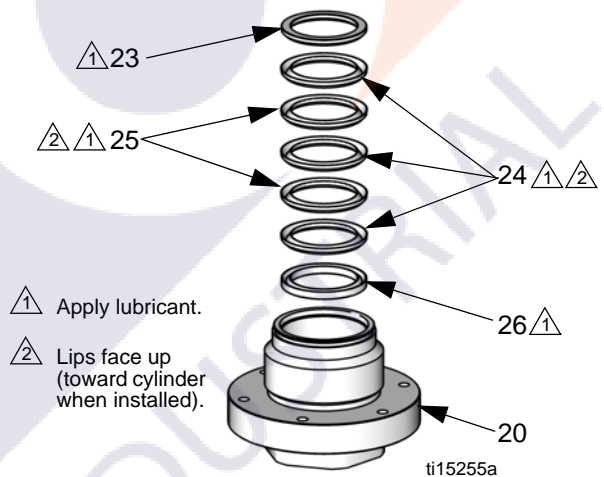
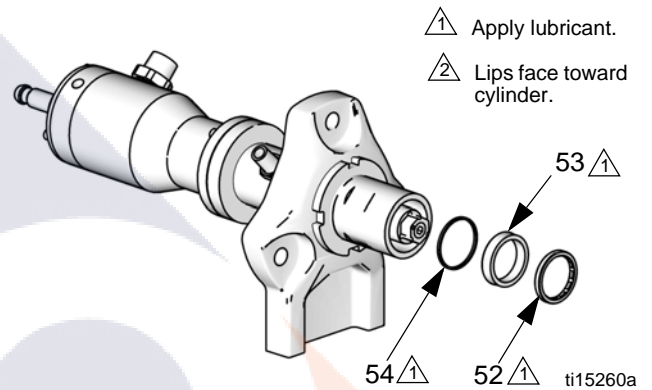

FIG. 10. Throat v-packings
FIG. 13. U-Cup piston seal
7. **U-Cup Models:** Remove the bearing (52), u-cup (53), and washer (54). See FIG. 13, page 15.
9. Remove the connecting rod (14) and bellows (7).
10. Use a 5 mm allen wrench to remove the three screws (17) and washers (18), then remove the bellows chamber (1). Remove and discard the bellows chamber o-ring (12).
11. Use a 54 mm (2 1/8 in.) socket wrench to remove the packing nut (20).
12. **V-Packing Models:** Remove the glands (23, 26), throat packings (24, 25), and spring (22). See FIG. 10, page 14.